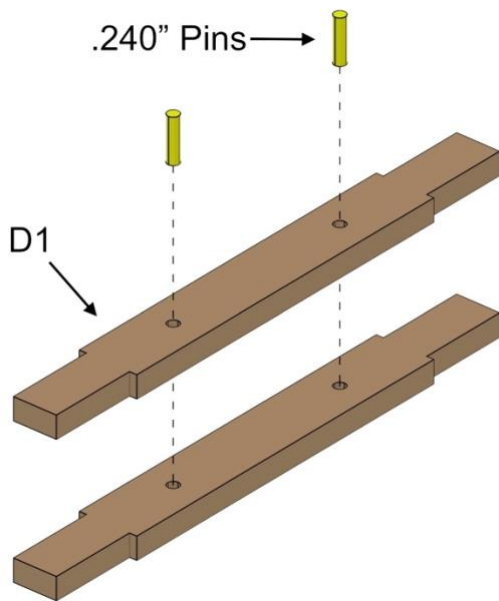

Fig. 20.1
- Align parts exactly as shown in Fig. 20.1.